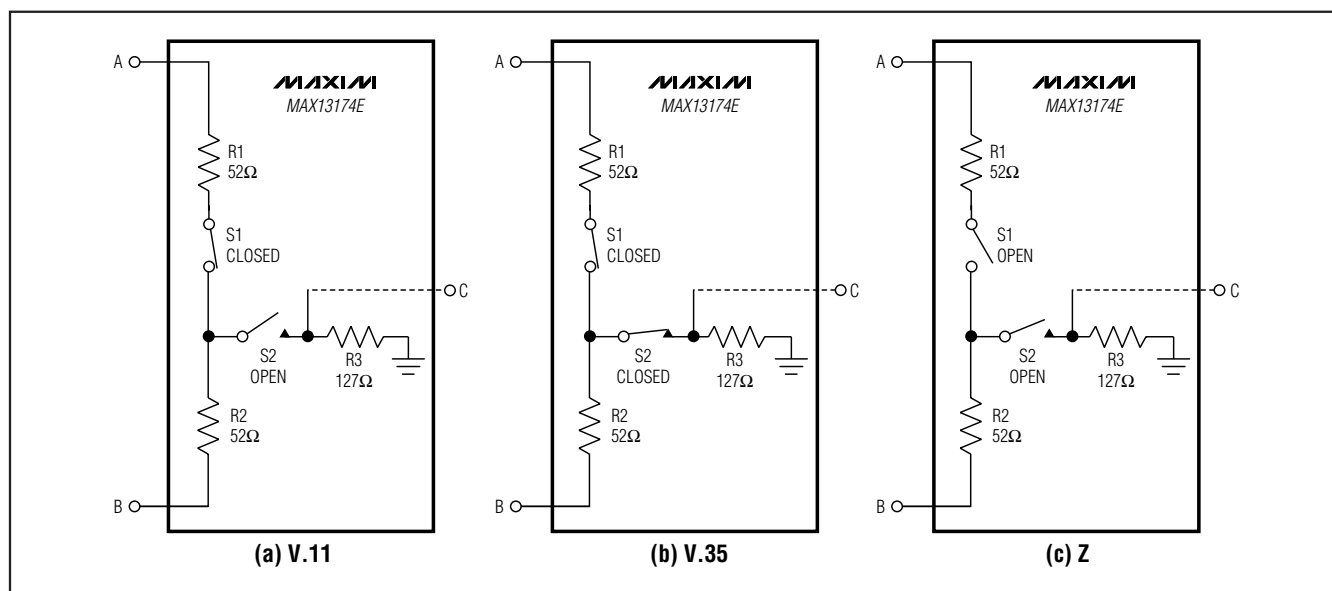

Figure 4. Termination Modes
The termination networks in the MAX13174E can be set to one of three modes: V.11, V.35, or high impedance. As shown in Figure 4, in V.11 mode, switch S1 is closed and switch S2 is open, presenting 104Ω across terminals A and B. In V.35 mode, switches S1 and S2 are both closed, presenting a T-network with 104Ω differential impedance and 153Ω common-mode impedance. In high-impedance mode, switches S1 and S2 are both open, presenting a high impedance across terminals A and B suitable for V.28 and V.10 modes.
The MAX13174E enters no-cable mode when the mode-select inputs—M0, M1, and M2—are connected high. In no-cable mode, all six termination networks are placed in V.11 mode, with S1 closed and S2 open (Figure 4).
**Note:** Z indicates high impedance, 1 = high, and 0 = low. Z, V.11, and V.35 refer to termination modes (Figure 4).